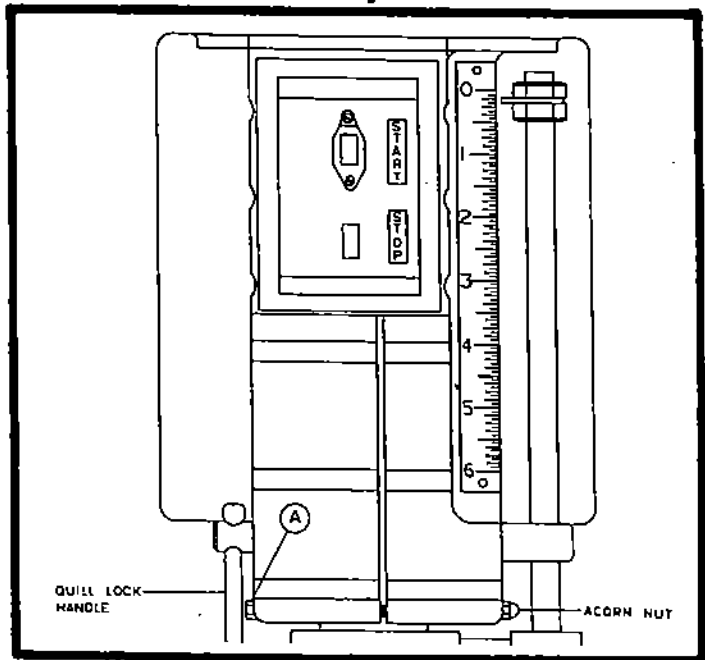

Figure 6
- a. Be sure quill lock handle (Fig. 6) is loose.
- c. Squeeze slotted head casting together slightly by tightening bolt (A). Apply just enough pressure to compensate for wear but do not restrict free motion down or return.
2. Loosen setscrew (C) (Fig. 6) and remove nut (D) on bottom of depth stop rod. Unscrew and remove depth stop.
3. Hold quill assembly and remove the turret pinion shaft (E). Entire quill assembly will slide out of head.